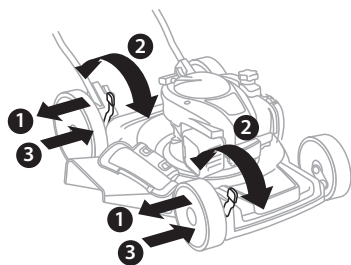

Fig. 8
3. Move the lever and wheel up or down to the desired position(2). Release the lever to lock the wheel in position(3). Be sure the rear height adjuster lever and front adjuster lever are at the same height (3. Fig.8)